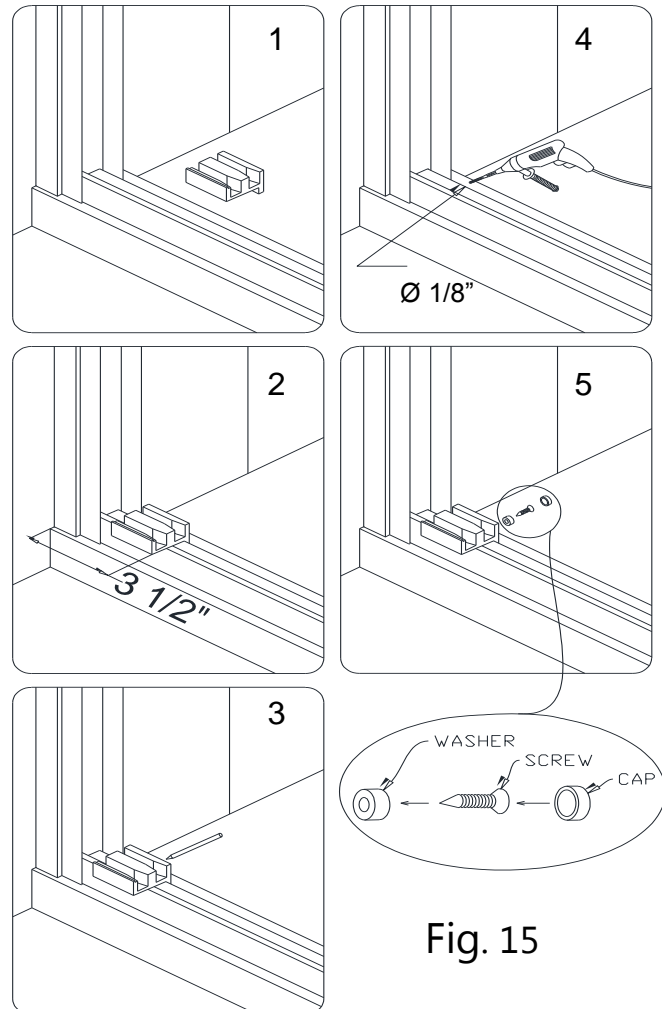

Fig. 15
10. From inside the shower, slide both **Glass Doors (#01)** to the right. Place the **Left guide block (#13)** to the end of the guide rail and mark the drill hole in the **Bottom Guide rail (#04)** through the pre-drilled hole on the block using an **Ø1/8"** drill bit. Drill the hole and secure the **Guide block** with the **Pan Head screw ST4.2×16 (08)** using the washers and the **Decorative Covers (10)**. See fig. 15 for details.
See Fig. 15 for details.